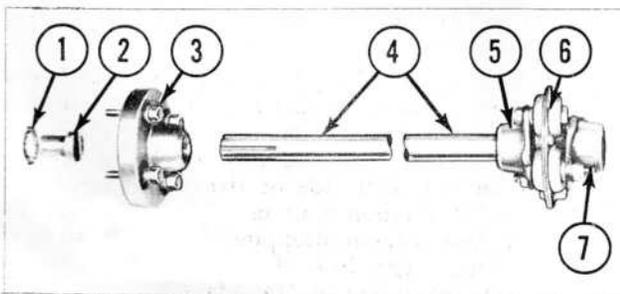

Figure 8
3. Fit the flat washer (1), Figure 8, on the special $\frac{5}{8}$ " x $1\frac{3}{16}$ " round head slotted screw (2), and install the screw in place of the crankshaft ratchet nut which was removed. To prevent loosening, tighten this round head slotted screw with a square shank screw driver and wrench.
- a. Position a Woodruff key on the drive shaft 4, Figure 8.
- b. Insert the drive shaft (4), Figure 8, and Woodruff key into the Morflex coupling (6), until the end of the drive shaft is flush with the face of the flange (5).
- c. Tighten the Allen screw on the flange (5), Figure 8.
11. Insert the splined end of the drive shaft (4), Figure 8, in the hub (3).
- b. Insert the pump shaft in the flange (7), Figure 8.
- d. Tighten the Allen screw on the flange (7), Figure 8.